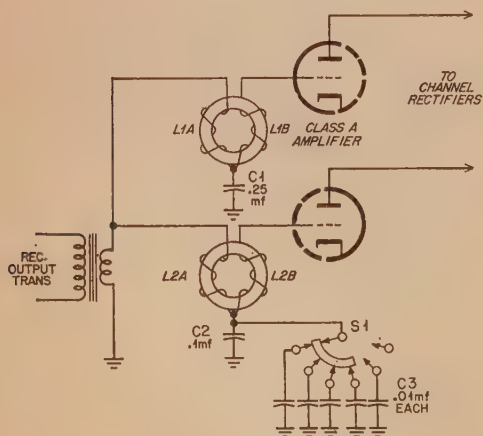

Fig. 1—Simple Audio Tone Filters
Morten obtains the operating power from your transmitter. A short pick-up wire couples the transmitter energy to a 1N34 crystal diode. This diode rectifier converts the r-f energy into direct current, necessary to power the transistor. A slide switch is connected at this point in the circuit and switches the transistor to operate from the batteries, when the key is depressed. A CK-722 or 2N107 transistor is connected in a feedback circuit so that when voltage is applied to it, an oscillation occurs. Potentiometer R2 controls the frequency of the oscillation and consequently the pitch of the note that you hear in the speaker. Therefore, each time you press the key, Morten "snorts." *Fig. 1* is the schematic diagram for the keying monitor and code practice oscillator. The parts list contains a complete bill of materials and everything is available at your local distributor. If you have a "well heeled" junk box, the cost should be less than five dollars.
- () Prepare the transistor for installation by clipping the three leads to 1 inch. When soldering the wires, be sure to grasp them with a pair of long nose pliers to conduct the heat away. The basing connections for the transistor are shown in fig. 1.
Now, for a real simple filter circuit, look at *fig 1*. These filters operate directly from the voice-coil circuit of your receiver. Note that the capacitor tuning the filter is connected to the junction of the two coils on each toroid. The combination of L1A and C1 tunes to the *mark* frequency of 2125 cycles. This is fixed. The combination of L2A and C2 tunes to the *space* frequency of 2975 cycles for the standard 850-cycle shift, or by switching in capacitor bank C3, to any one of five other lower audio frequencies, depending upon how many of the capacitors are paralleled by the shorting-type switch S1. (This provides for the reception of narrow shift down to about 40 cycles.) The output of the filters, at high impedance, from L1B and L2B, then feeds the grids of ordinary Class-A audio stages, which in turn feed the channel signal rectifiers.